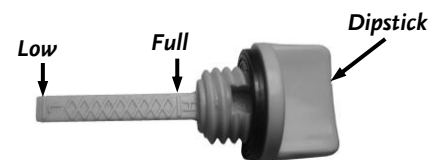

Figure 8
3. Continue adding a few ounces of oil at a time, until the oil reaches the Full line on the Dipstick (**Figure 8**). Be careful not to overfill.